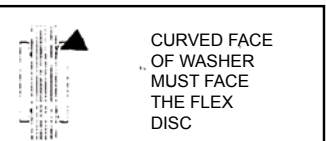

FIGURE 2
4) Assemble flex discs, coupling bolts and nuts and element washers to each hub before moving the equipment into position. The curved face of the element washer should face the flex disc as shown in figure 2.